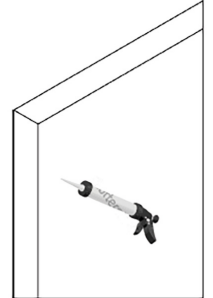

FIGURE 5
Put a small amount of silicone in each hole drilled. Place Plastic Anchors (E), if needed, in holes and gently tap with a hammer. Be sure not to hit the tile. (See Figure 5)